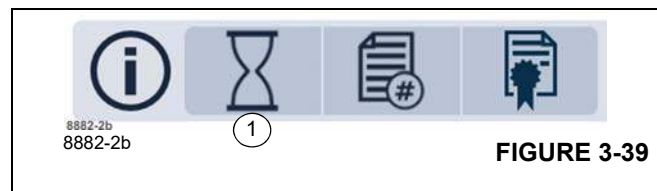

FIGURE 3-39
Open the Operating Hours Menu (1), (Figure 3-39).